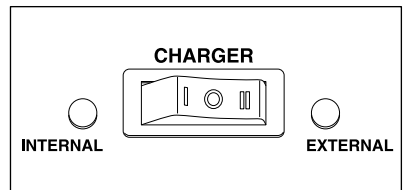

Fig. 5
- If the voltage is above 5V, plug the power cord of the RESCUE 4000HD/4050HD into a 120V AC outlet and set the rocker switch on the front of the unit to EXTERNAL. (Fig. 5)